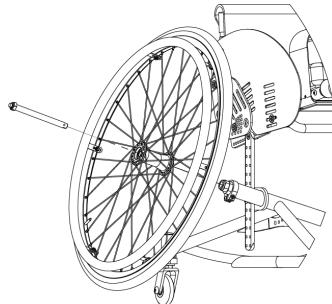

FIG. 10
- Make sure that the “X” button has been entirely released (fig. 10), once the wheel has been assembled.